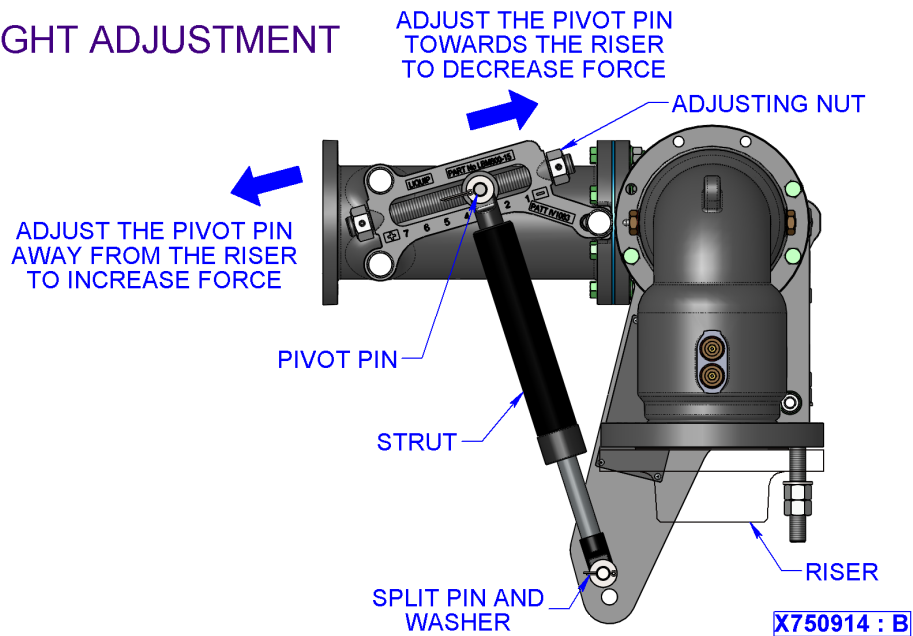

Figure 9: LBM800 Height Adjustment
- 4.2.1** Turn the nut on the adjustor bracket to move the pivot pin in towards the riser pipe, decreasing the upward force of the struts (see figure 9). The centre of the API coupler should rest 830mm (33”) for 15° spools or 740mm (29”) for straight spools from ground level (see figure 8), unless otherwise specified.
- 4.2.2** Turn the nut on the adjustor bracket to move the pivot pin away from the riser pipe, increasing the upward force of the struts (see figure 9). The centre of the API coupler should rest 830mm (33”) for 15 deg spools or 740mm (29”) for straight spools from ground level. (See figure 8), unless otherwise specified.